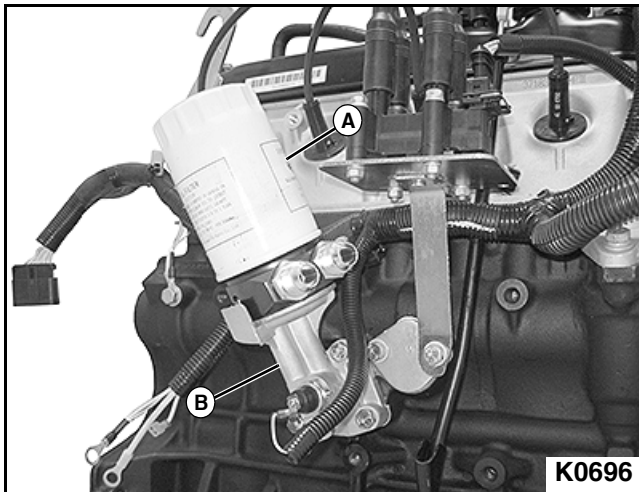

Figure 3-109
1. Using an oil filter wrench or equivalent tool, turn oil filter (A) counter clockwise and remove from oil filter base (B). **See Figure 3-109.**